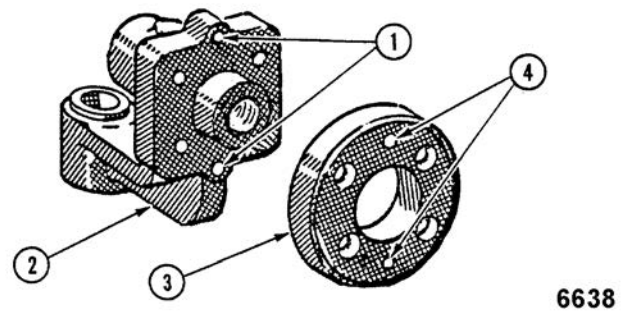

Fig. 140
NOTE: If the handwheel bracket/bearing assembly and handwheel bracket clamping ring are not being replaced, install the handwheel bracket assembly in reverse order of removal. However, if the handwheel bracket/bearing assembly and the handwheel bracket clamping ring are being replaced, additional steps are required to properly align these two parts. The replacement handwheel bracket/bearing assembly [2] Fig. 140 is not drilled with the two holes [1] Fig. 140 for the roll pins. The replacement handwheel bracket/bearing assembly and the handwheel bracket clamping ring [3] Fig. 140 are to be drilled after the parts are assembled into the mixer.
1. Install the replacement handwheel bracket/bearing assembly [2] Fig. 140 and the handwheel bracket clamping ring [3] Fig. 140 as they would normally be installed.
2. Align the two roll pin holes [4] Fig. 140 in the handwheel bracket clamping ring with the existing holes in the mixer column.
4. Using the 15/64" holes [4] Fig. 140 in the handwheel bracket clamping ring [3] Fig. 140 as guides, drill two 1/4" holes thru the handwheel bracket clamping ring and the handwheel bracket/bearing assembly.